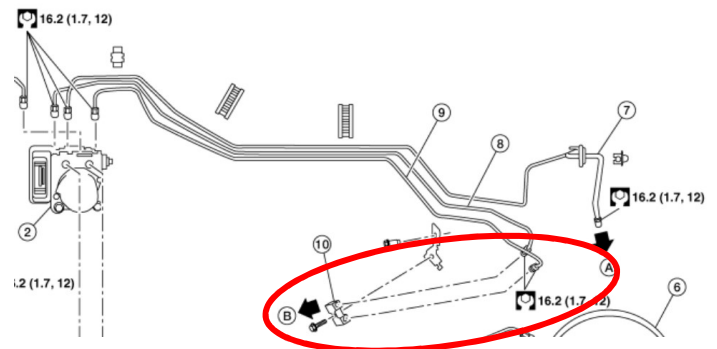

Figure 11
8. Disconnect brake tube on driver's side and remove the brake tube from the vehicle. (Figure 11)